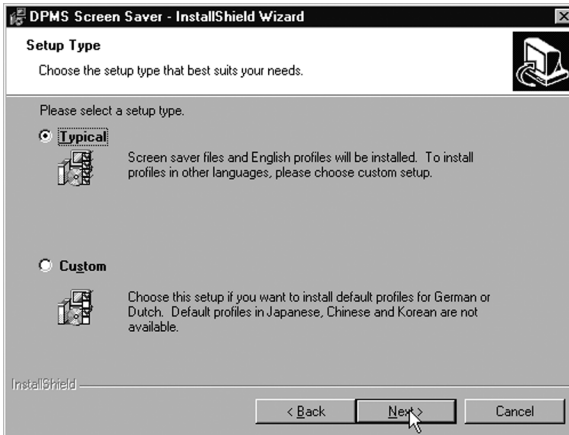

Figure 24
20. The "Setup Type" page will now appear (figure 24). Choose **"Typical"** to install the default schemes with English names. Choose **"Custom"** to install the default schemes with either Dutch or German names. Currently the default schemes are not supported in the Japanese, Korean and Chinese languages. We recommend that the users of these three languages install the English default schemes and then rename and save them into their language in the DPMS configuration screen. Click **"Next"** to continue.